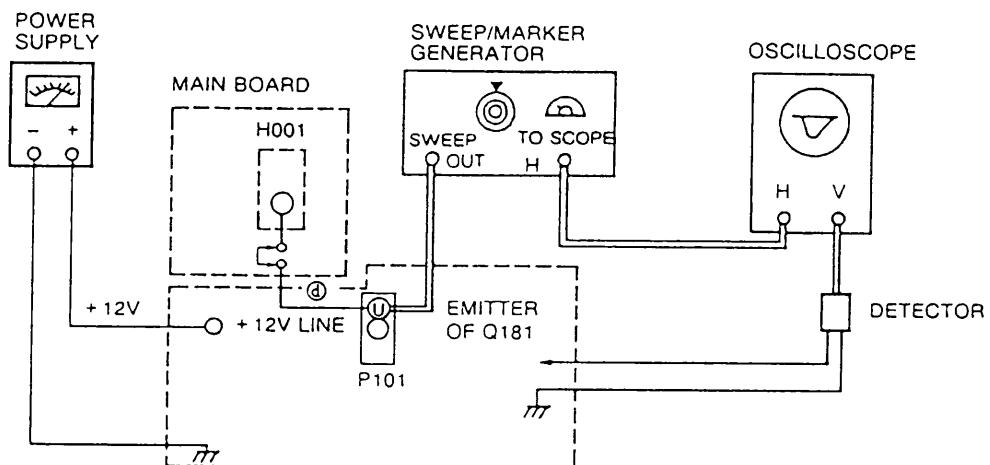

Figure 7. I-F TRAP Alignment
GENERAL Refer to Figure 7 for the equipment connection.
SWEEP/MARKER GENERATOR Connect to the point ④ as shown in Figure 7 on the MAIN Board.